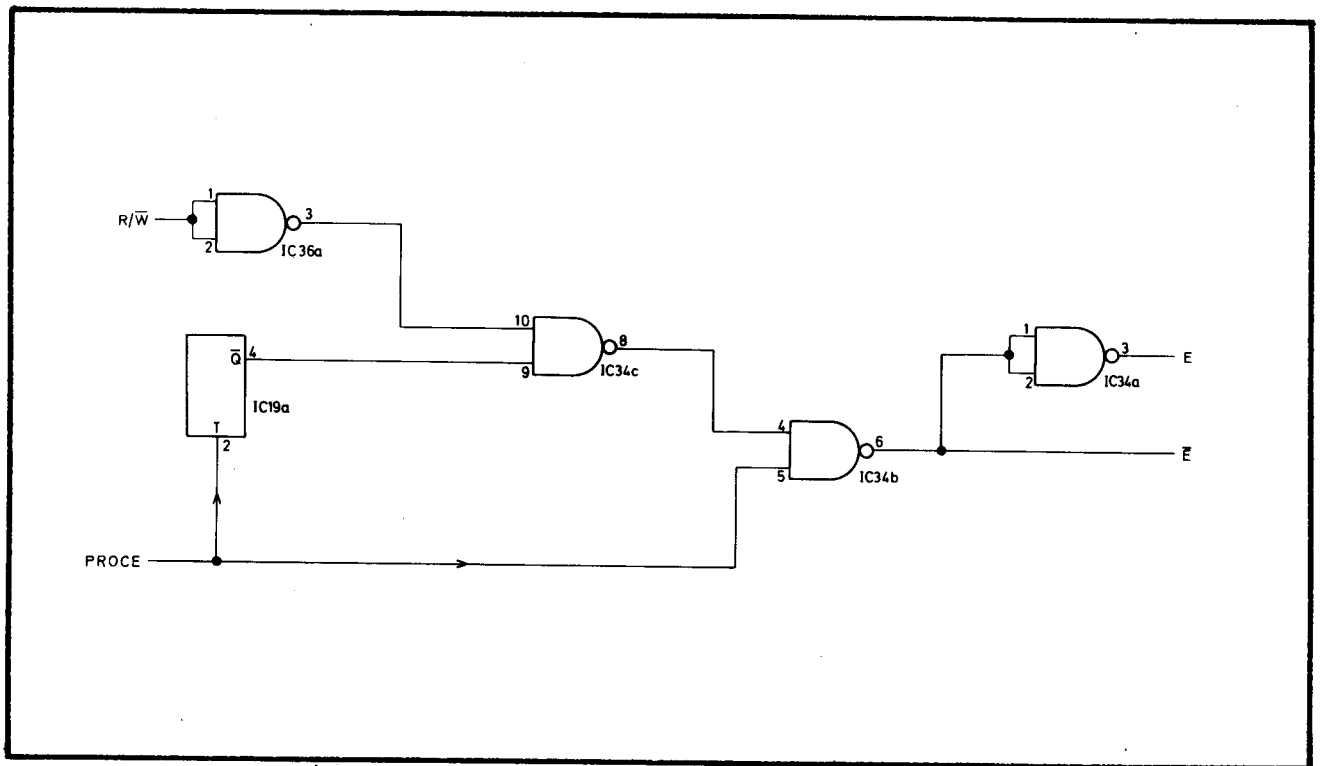

Fig 6.8 Timing Modification Circuit
6.5.4.4.5 The E and \bar{E} clocks are derived from the PROCE clock in the circuit containing IC19a, IC34a, b and c, and IC36a, shown in Fig. 6.8. When the microprocessor is reading data from the bus, E and \bar{E} are a copy and the inverse of PROCE. During microprocessor write operations, however, E and \bar{E} are modified to increase the time during which valid data may be read from the bus.